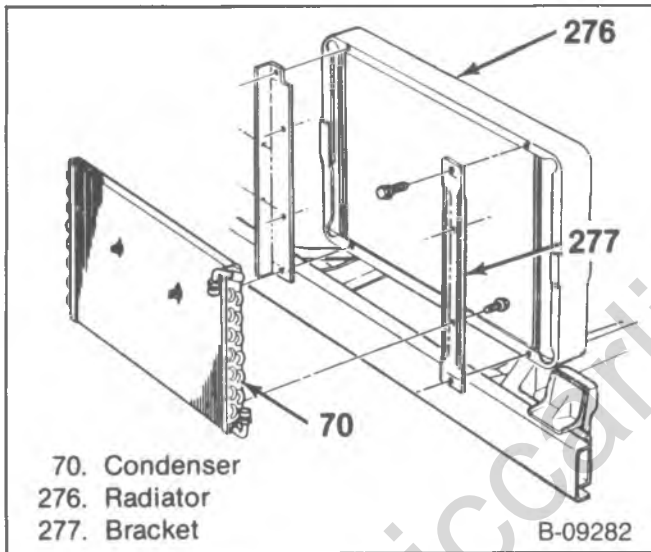

Figure 70—P-5.7L Engine Condenser Installation
1. Condenser Mounting - refer to figure 70.